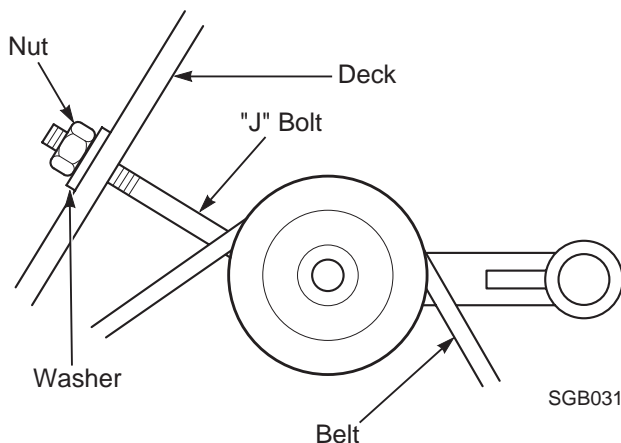

Figure 6-6. Blade Belt Tension Adjustment
- B. Adjust the tension by tightening or loosening the nut on the J-bolt. See Figure 6-6.